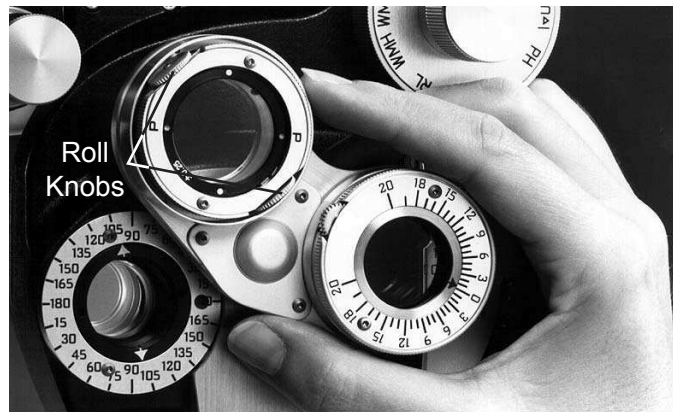

Figure JC-1 Finger Roll Knob
1. The Cross Cylinder Unit is in the correct position for axis check when the axis of the Finger Roll Knobs (handles) correspond to the axis of the correcting cylinder and the red and white dots are 45° from the correcting cylinder axis. Refer to Figure JC-1.